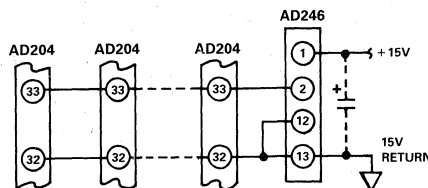

Figure 3b. Powering One or More AD204's
**Powering the AD204.** The AD204 gets its power from an externally supplied clock signal (a 15V p-p square wave with a nominal frequency of 25kHz) as shown in Figure 3b.